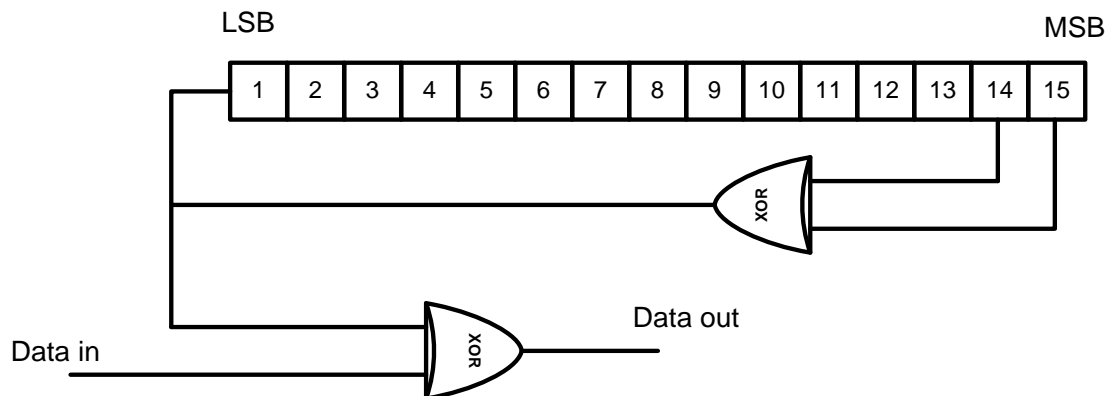

Figure 1: PRBS generator for Data randomization
- Using a linear feedback shift register (LFSR), design a pseudorandom binary sequence (PRBS) generator that implements the polynomial $1 + X^{14} + X^{15}$ shown in Figure 1 which is used to randomize a sequence of binary inputs.